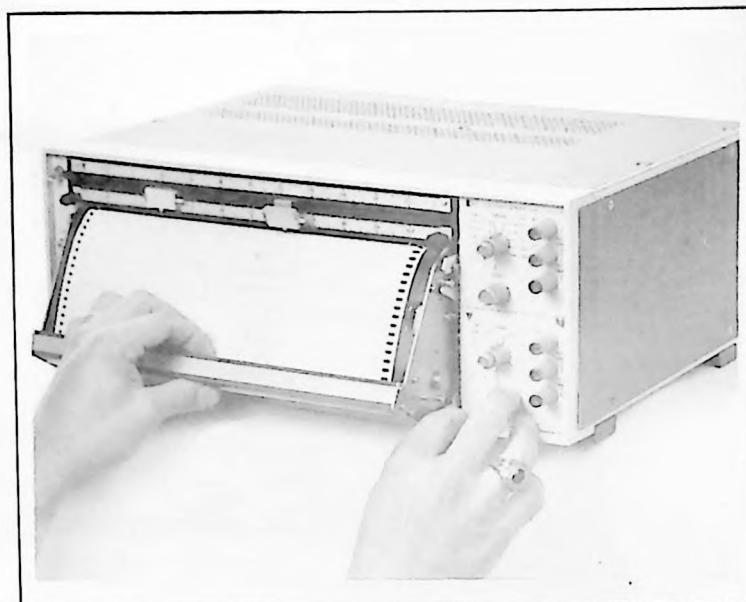

Figure 3-4. Chart Magazine Removal
- a. Remove chart magazine. See Figure 3-4.
- c. Prime pen by pressing on appropriate bulb. Depress for at least five seconds with finger over bulb hole and remove finger quickly. Repeat several times until ink flows at pen. Initial priming of ink lines is easier without pen tips installed. See Figure 3-4. Install disposable pen tips by pushing over end of metal pen tubes until seated. Avoid deforming ends of plastic tips when installing.